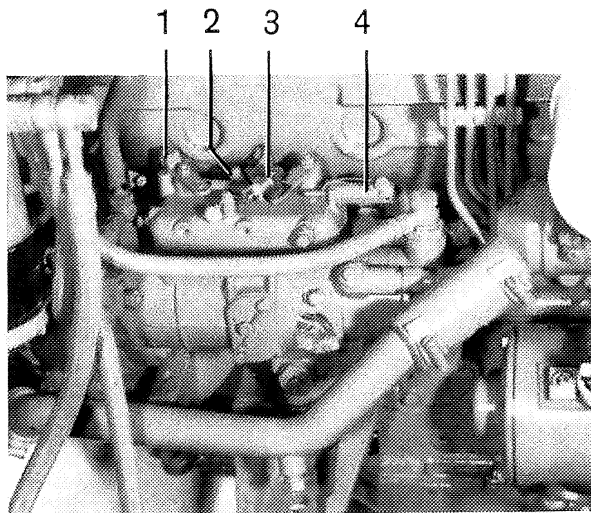

Fig. 28. 4-cyl. engine
2. Loosen the lock nut, then turn the screw (2, Fig. 28 or 29) so that the correct idling speed is obtained.
3. Re-tighten the lock nut while holding the nut (2) firm.
Check that the control lever of the controls is in neutral position and that the fuel injection pump lever (3, Fig. 28 or 29) is in the idling position. Release the spring "disc" from the lever. Screw on a lock nut and then the "disc" with the spring end in front so far that a tensioning of the spring by 4–5 mm (0.16–0.20") is obtained when the "disc" is refitted in the lever. Tighten the lock nut. Move the control lever fully "Forward" and check that there is optimum operation on the fuel injection pump.
Check that the stop control lever (1, Fig. 28 or 29) lies against its stop on the fuel injection pump and that the control is pushed in. Then screw securely the control wire in the "dice" on the lever (Fig. 28 or 29).